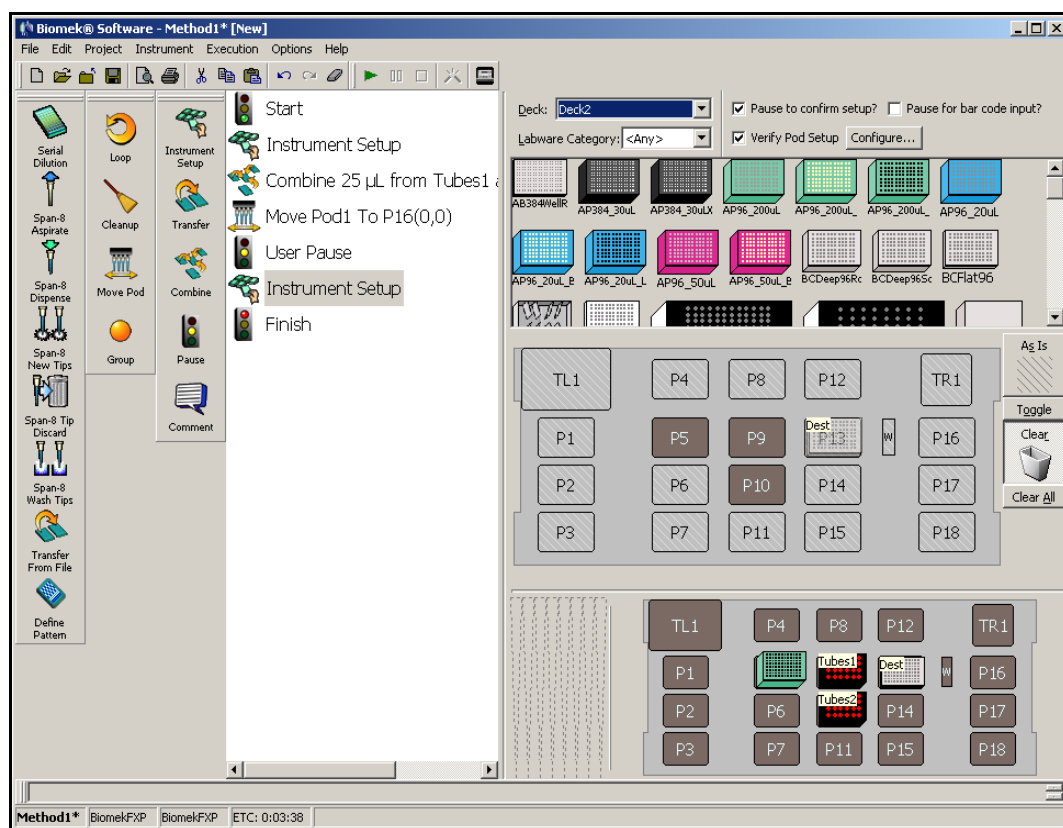

Figure 6-12. Using Clear to remove used tip boxes
3. Select **Clear** and then click on **P5**, **P9**, and **P10**. This removes the tube racks and used tip boxes. Now the main editor should look like Figure 6-12.